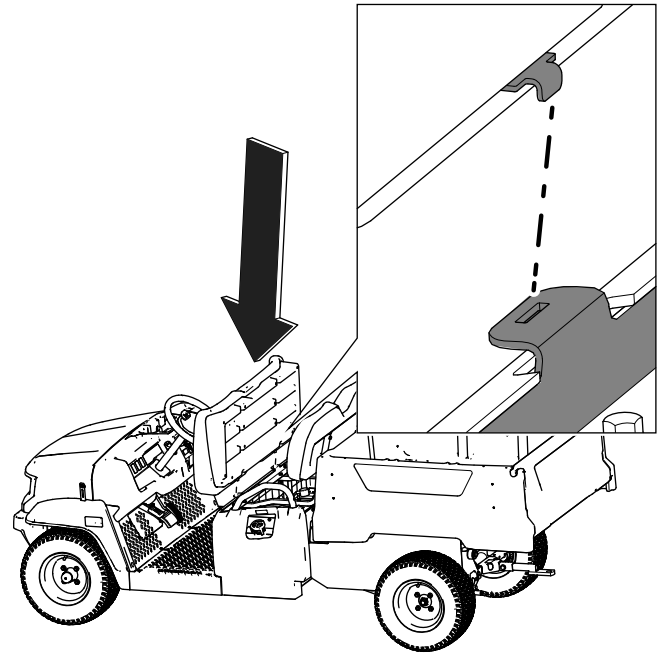

Figure 33
1. Set the bench cushion onto the bracket. (Figure 33).